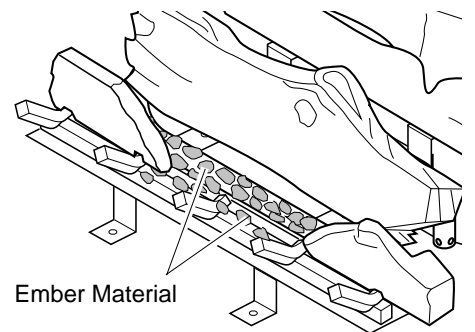

Figure 51 - Placing Ember Material on Burner
7. Pull ember material apart into pieces no larger than a dime. Place these pieces loosely and sparingly directly onto the exposed section of the front burner and along the space between the burner and grate prongs (see Figure 51).